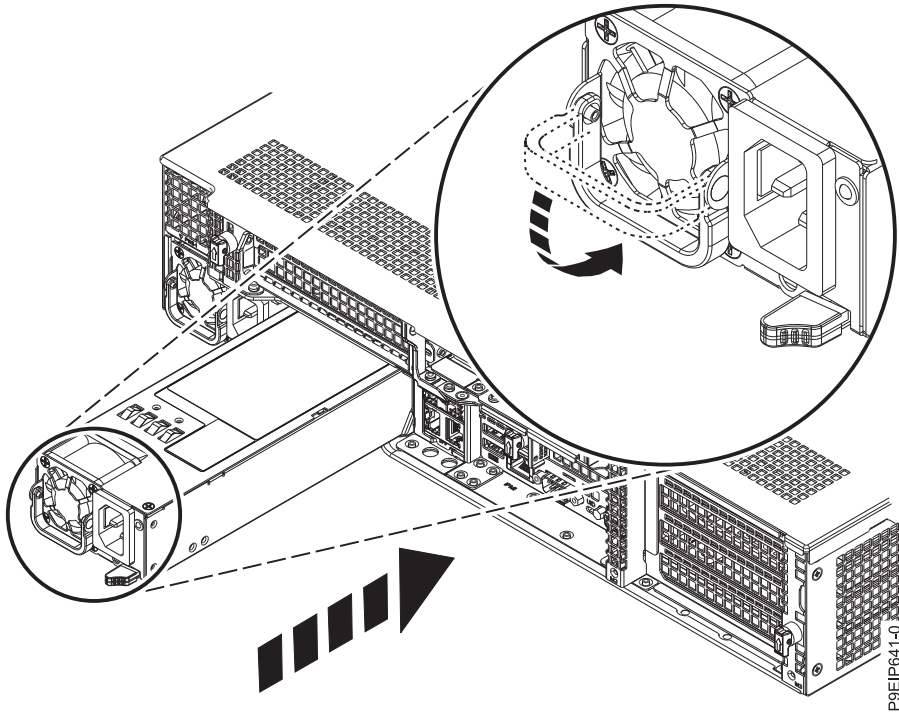

Figure 88. Replacing a power supply in the system
2. Align the power supply with the bay as shown in Figure 88 on page 88. The fan is on the left; the plug is on the right. Slide the power supply into the system until the latch locks in place.